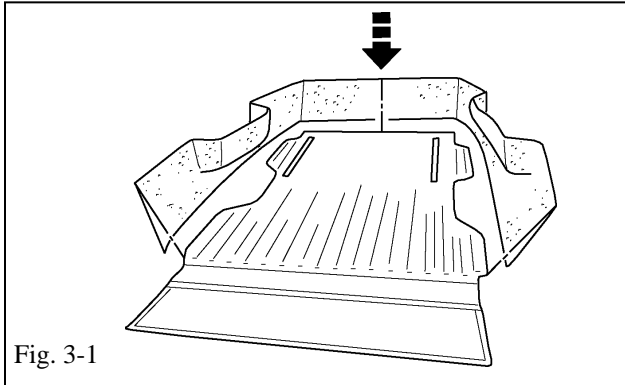

Fig. 3-1
- (a) Align the sides of the bed liner as shown. **NOTE:** BED LINER FLOOR IS FACE DOWN FOR THIS OPERATION. (Fig 3-1)